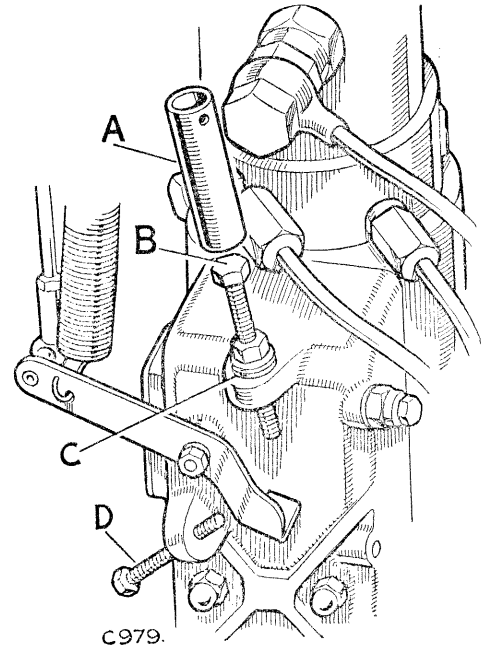

Fig. M-33—Distributor pump control screws
- (c) Remove adjusting screw collar. See Fig. M-33.